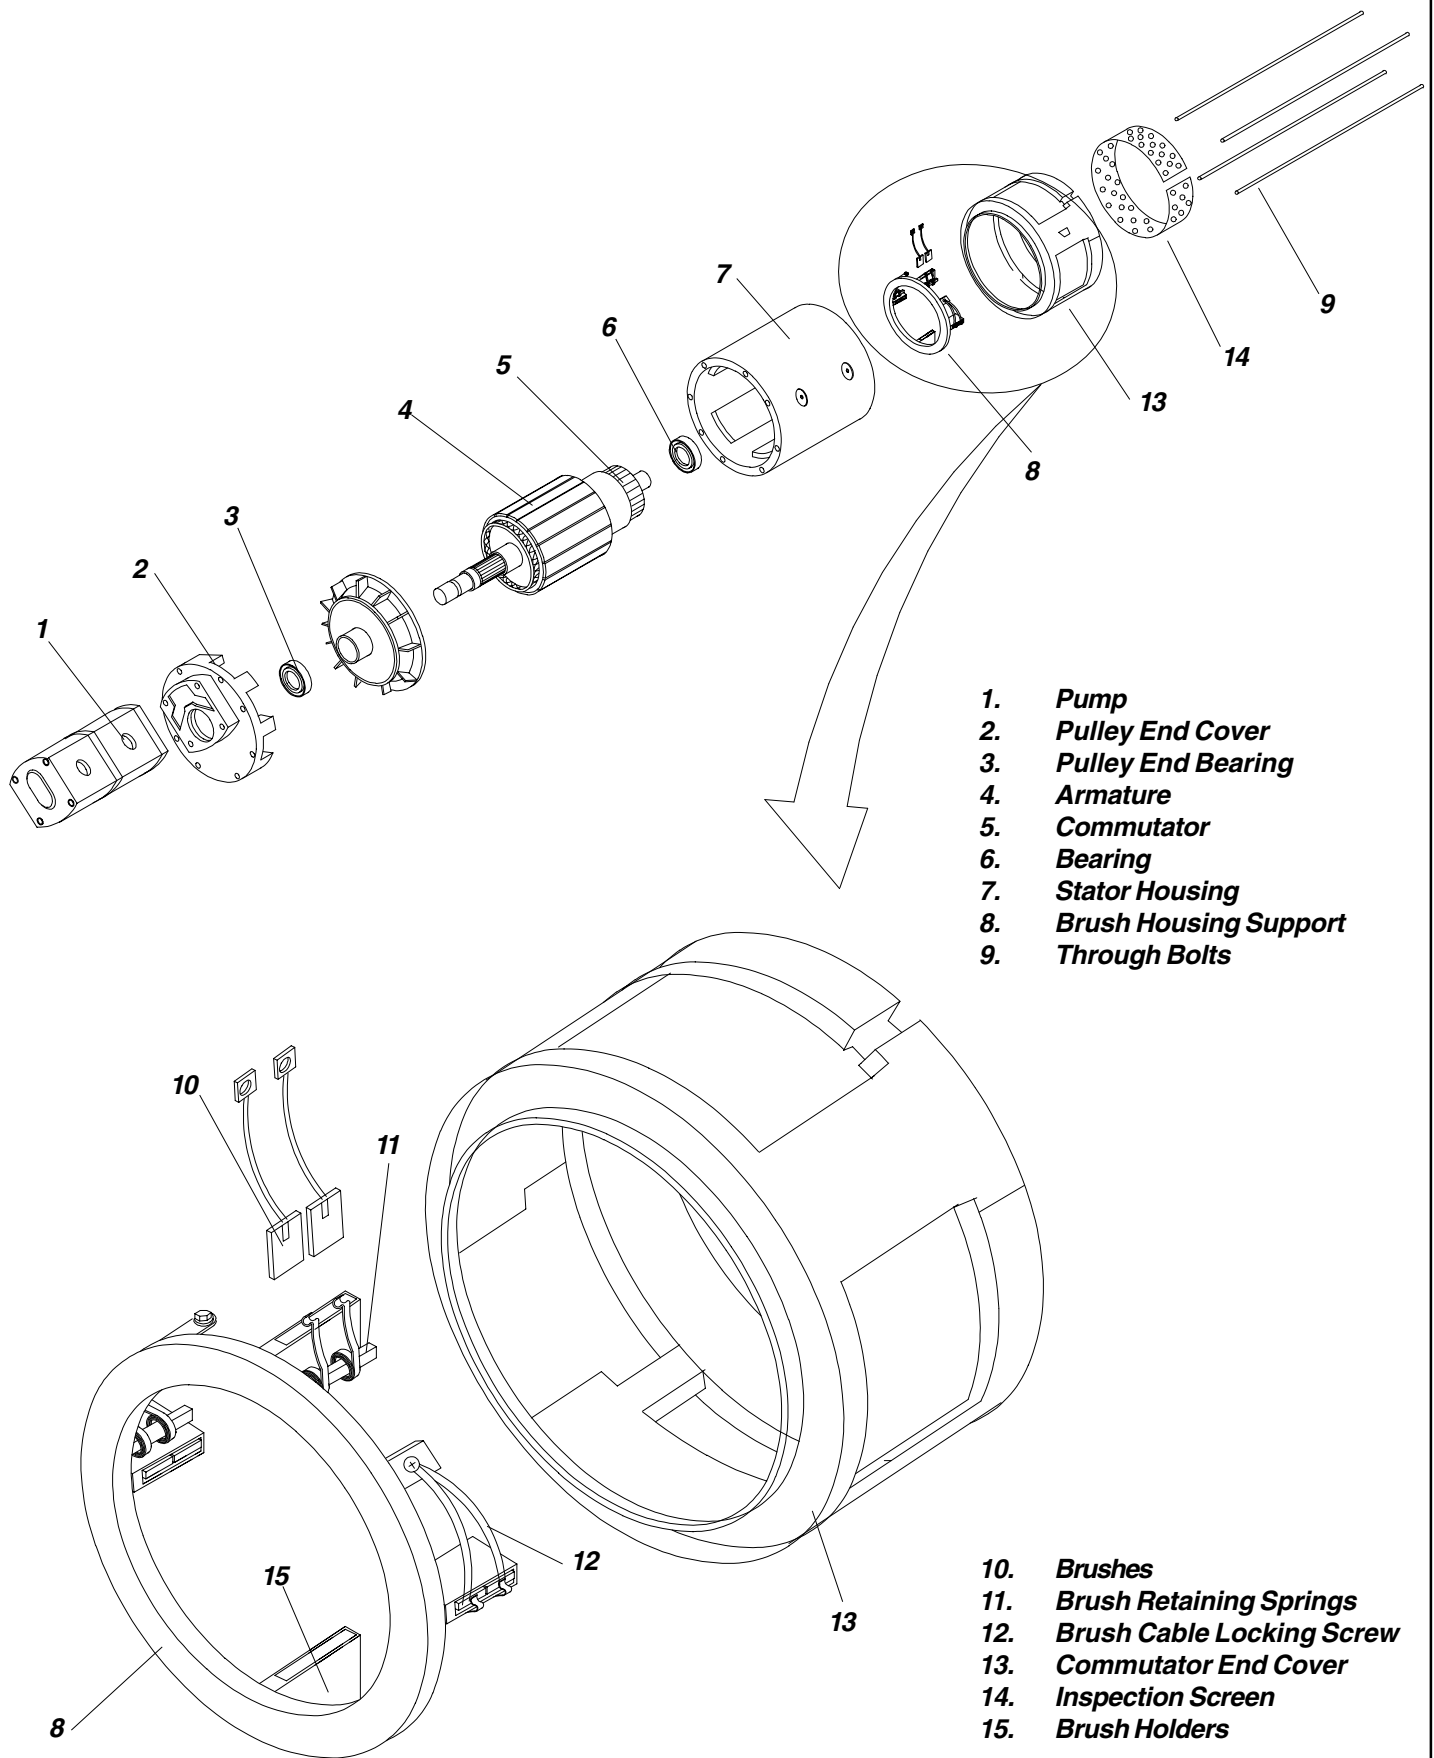

Figure 4-23: Electric Motor Assembly
4.18 Electric Motor (Figure 4-23)